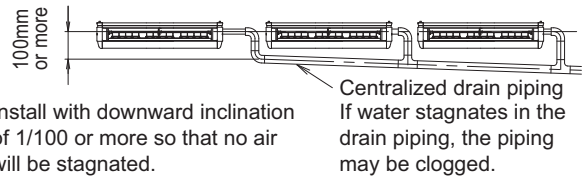

Fig. 27
To avoid the attached drain hose (1) getting excessive force, do not bend nor twist it. (It may cause water leakage.) When conducting the centralized drain piping, follow the instructions in Fig. 27. For the diameter of the centralized drain piping, select the diameter matching the capacity of the indoor unit to be connected. (Refer to technical guidebook.)